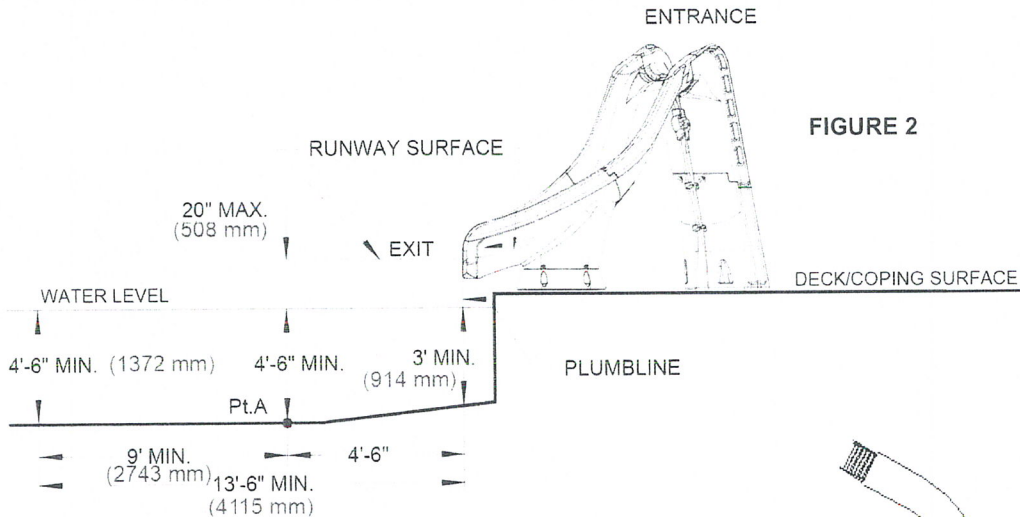

FIGURE 2
5. OBSERVE THE POSITION OF THE EXIT OF THE SLIDE AS SHOWN IN FIGURES 2, 3 AND 5 ON PAGES 6 AND 7.
1. The critical dimensions for placement of the Typhoon® slide are as shown in FIGURES 2 and 3.
- A. The slide exit runway surface shall not exceed 20" (508 mm) above the water surface as shown in FIGURE 2.
- C. The minimum depth of water below the exit lip of the slide shall be 3' (914 mm) and increases to 4'-6" (1372 mm) at Pt. A, which is a distance of 4'-6" (1372 mm) from the exit lip of the slide as shown in FIGURE 2.
- D. A minimum depth of 4'-6" (1372 mm) shall be maintained at a distance of 9' (2743 mm) along the extended centerline of the slide from Pt. A. as shown in FIGURE 2.